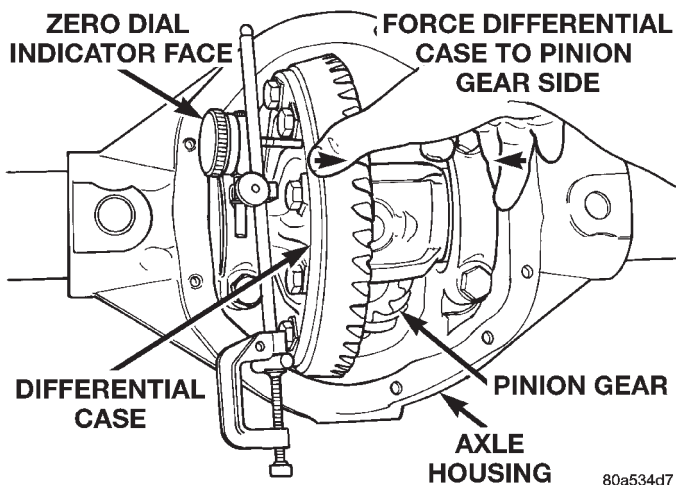

Fig. 59 Hold Differential Case and Zero Dial Indicator
(21) Push and hold differential case toward pinion gear (Fig. 59).
(22) Zero dial indicator face to pointer (Fig. 59).